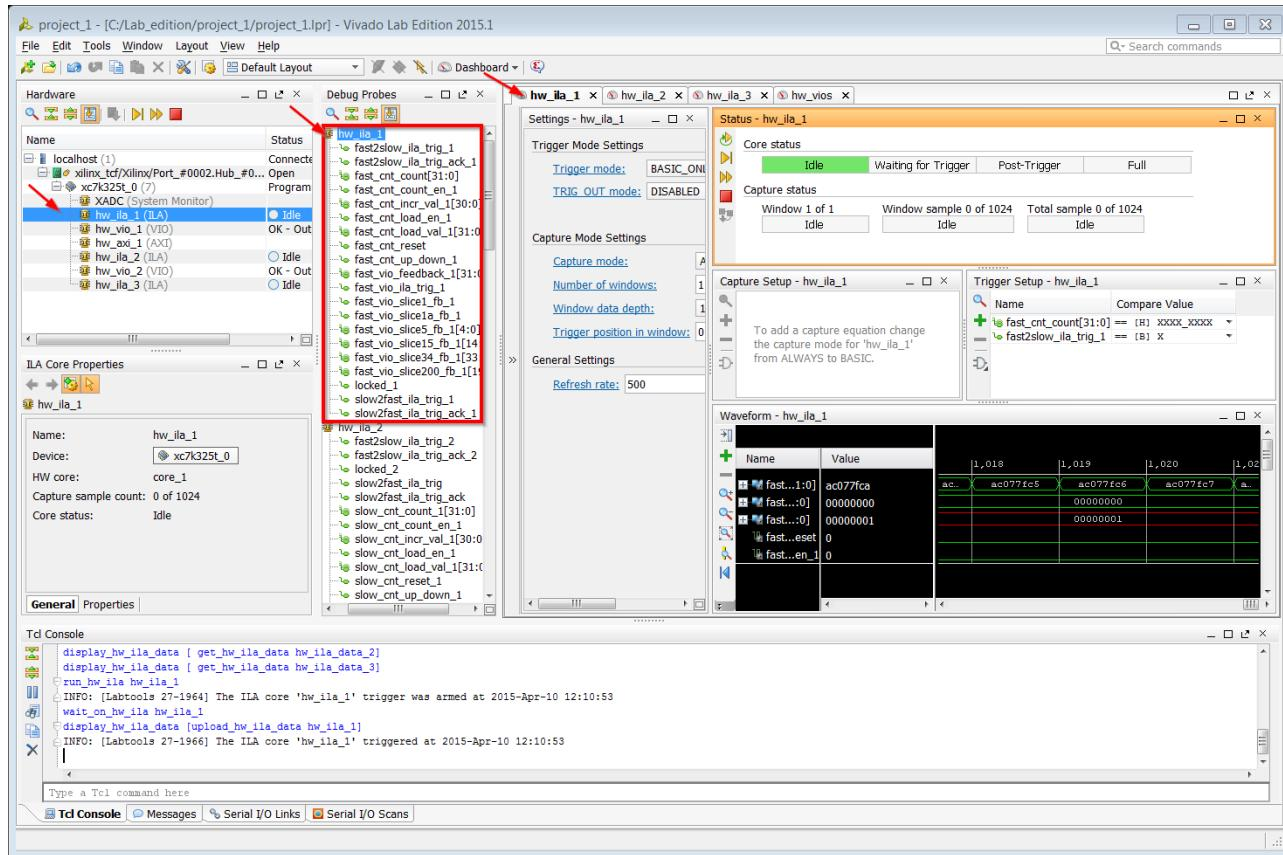

Figure 9-13: Selection of the ILA Core in Various Views
**Windows->Debug Probes** menu option, which displays the **Debug Probes** window as shown in Figure 9-13, page 88.